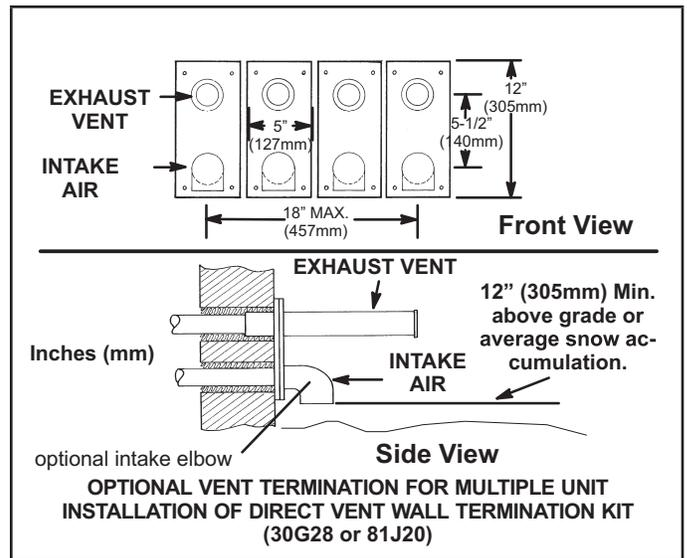

Figure 36
- 8 - A multiple furnace installation may use a group of up to four terminations assembled together horizontally, as shown in figure 36.